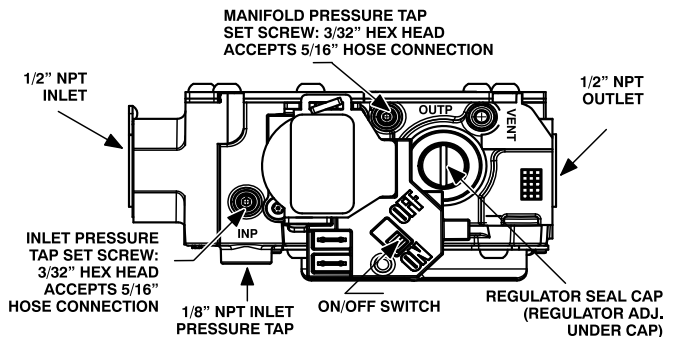

Fig. 65 – Gas Valve with Tower Pressure Ports
1. Adjust manifold pressure to obtain proper gas input rate, see Fig. 65.
- h. Remove regulator adjustment cap from gas valve pressure regulator and turn adjusting screw (3/16 or smaller flat-tipped screwdriver) counterclockwise (out) to decrease input rate or clockwise (in) to increase input rate, see Fig. 65.